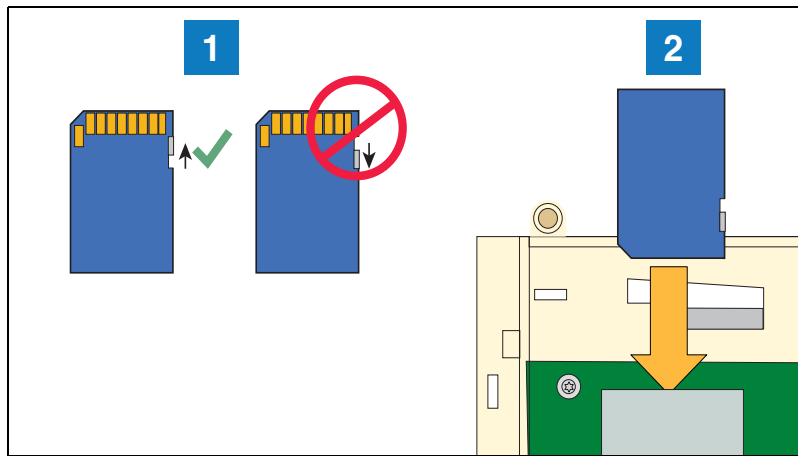

Figure 6. Inserting SD Card In Its CPU board Enclosure
2. When replacing the SD card, always check the read/write-protect switch on the side of the card is in the position shown in Figure 6. Orient the card, contacts down and angled corner to the left, as you gently push the card into its enclosure until it clicks into the enclosure's latch.